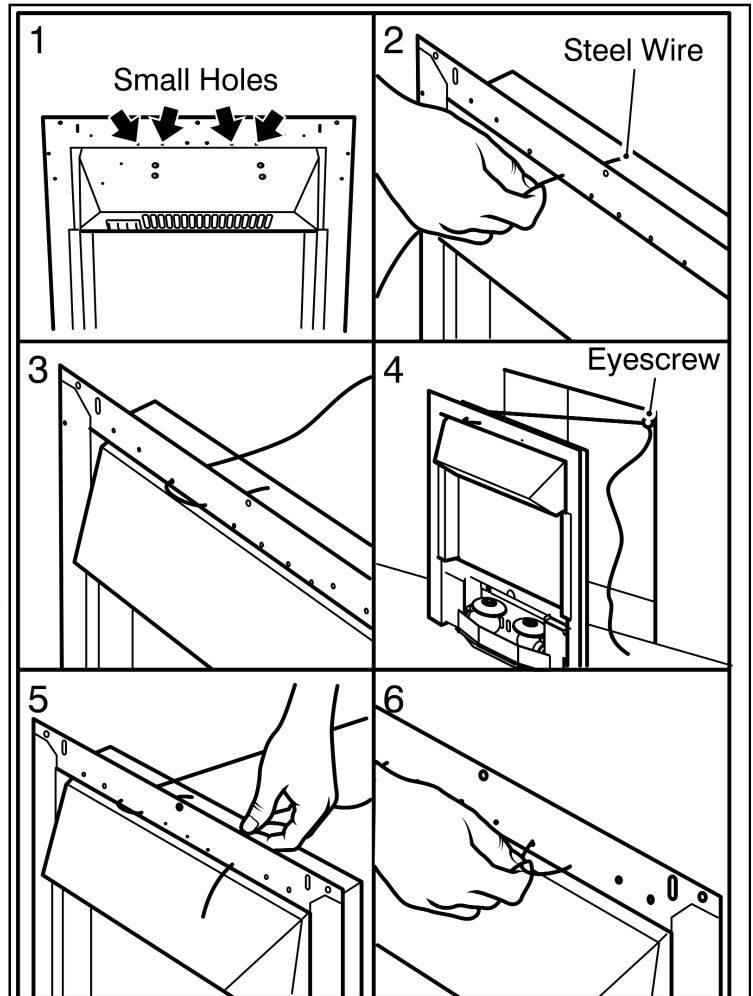

Figure 5. Steel wire fixing (The fuel effect may differ from that shown)
small holes, two each side of the heater (See figure 5- Item 1). From the front of the heater, thread about 50mm (2 inches) of the steel wire into the inside small hole on the left side of the heater (See figure 5 - item 2).
8. Thread the other end of the wire through the remaining small hole on the left hand side of the heater. Continue to push the wire through this hole until there is only a small loop of wire at the front of the heater (See figure 5 - item 3).
9. At the back of the heater there will be a long piece and a short piece of wire coming through the two holes. Hold the short piece and give the long piece a gentle tug. This will secure the steel wire. Take the long piece and thread this through the eyescrew in the back of the fireplace opening (See figure 5 - item 4).
10. From the back of the heater thread the long piece of steel wire through the outer small hole on the right hand side of the heater (See figure 5 - item 5).
11. Locate the heater in the fireplace opening, then from the front of the heater, gently pull the steel wire on the right hand side to gather up the excess until the heater is secure. Thread the wire through the remaining small hole to lock the wire and heater in place (See figure 5 - item 6).